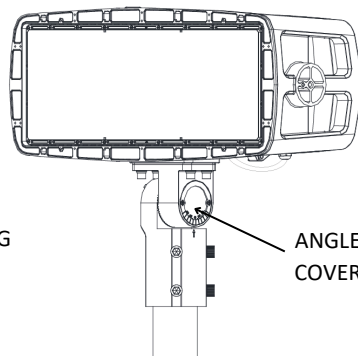

Fig. 5
3. Place the slip fitter and fixture onto the pole, and tighten the four mounting bolts at 4.2 Nm (3.1 ft.lbs) to secure (Fig. 5).